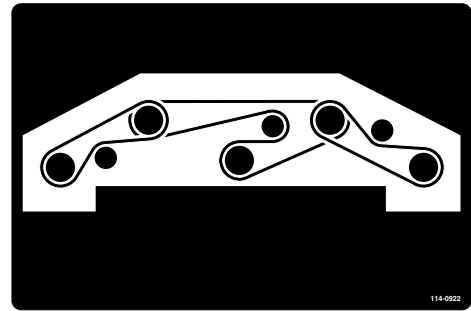

Figure 128
8. Route the new belt around the spindle pulleys and idler-pulley assembly (Figure 128).